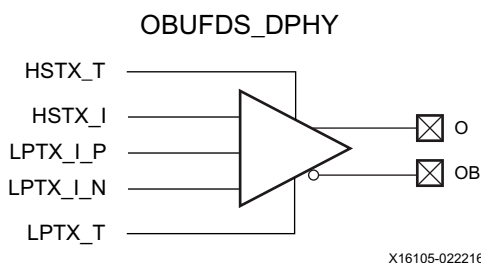

Figure 1-45: Differential Output Buffer Primitive (OBUFDS_DPHY)
The differential output buffer primitive (OBUFDS_DPHY) is only supported in the HP I/O banks in the Virtex UltraScale+ devices, Kintex UltraScale+ devices, and Zynq UltraScale+ MPSoCs (Figure 1-45). This UltraScale architecture specific primitive is for MIPI D-PHY transmitter implementation. The HSTX_T port is used to 3-state the MIPI D-PHY high-speed (HS) transmitter. The LPTX_T port is used to 3-state the low-power (LP) transmitter. The HSTX_I and LPTX_I(P/_N) inputs are from the interconnect logic to the HS